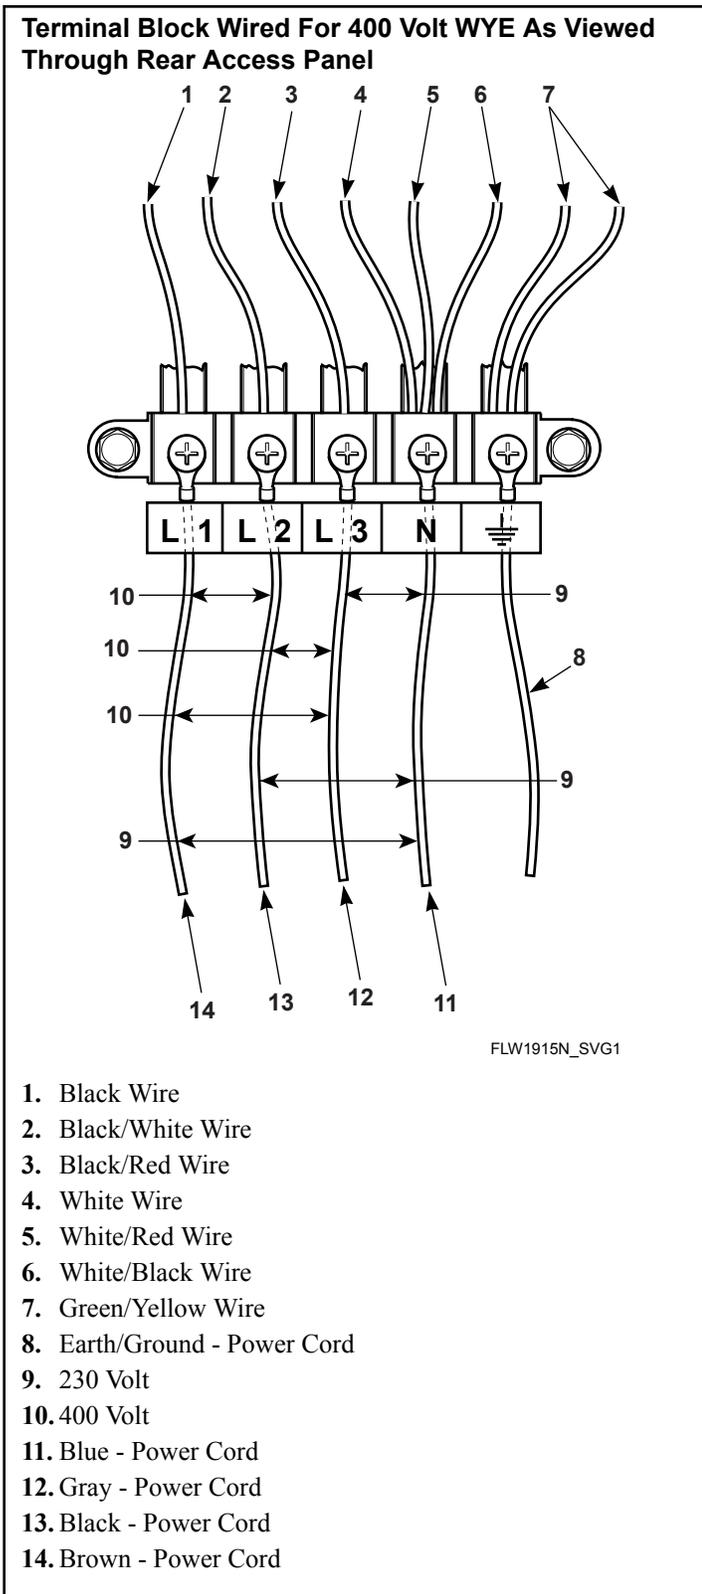

Figure 9
5. Attach power cord wires as shown in *Figure 9*.